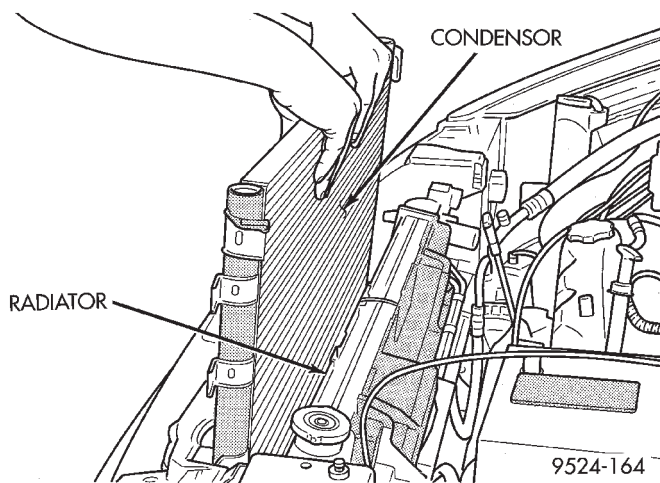

Fig. 22 Condenser Removal
- (7) Through fascia, remove lower liquid line from filter-drier.
- (8) Remove (2) lower condenser mounting bolts.
- (9) Remove (2) upper mounting bolts.
- (10) Remove condenser from vehicle (Fig. 22).